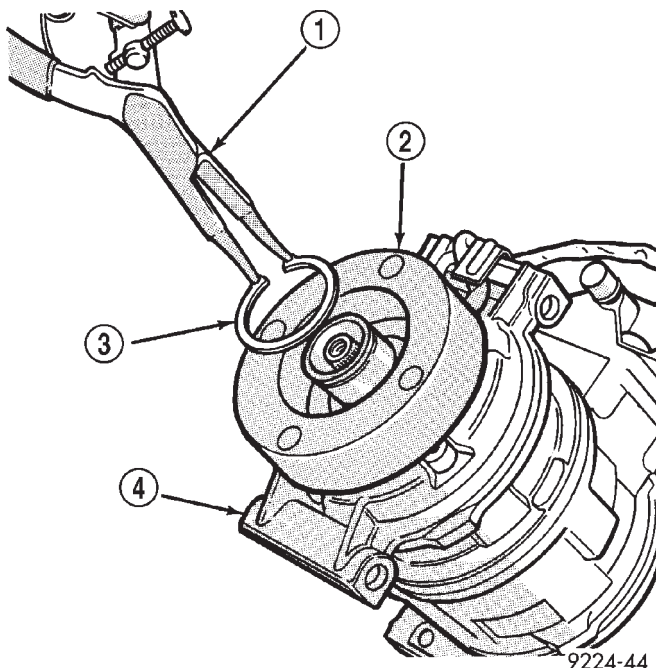

Fig. 8 Clutch Coil Snap Ring
(6) Remove the screw and retainer from the clutch coil lead wire harness on the compressor front housing.
(7) Remove the external snap ring that secures the compressor clutch coil to the nose of the compressor front housing with snap ring pliers and slide the coil assembly off of the compressor (Fig. 8).